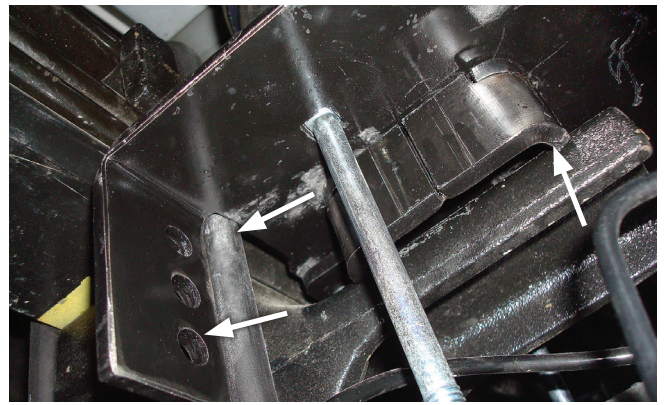

Fig. 32
- Once assemblies are in position on the jounce bumper strike plate or axle, push the lower bracket towards the leaf spring stack while guiding the U-bolt (L) into the topmost accessible hole in the lower bracket main plate (Fig. 32), continue pushing the assemblies until they are flush against the leaf spring stack and both flanges are locked around the stock U-bolts (Fig. 32).